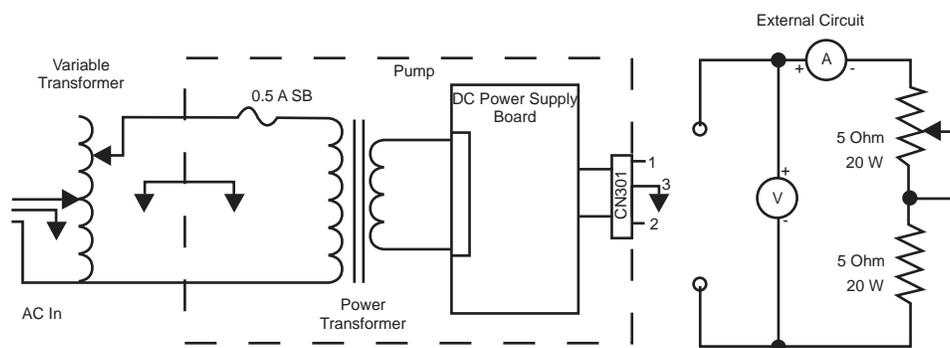

Figure 9-1 Calibration Equipment Setup
- 12.1 Connect the calibration circuit shown in Figure 9-1.
- External circuit consisting of a 10Ω , 10 watt resistor in series with a 10Ω , 10 watt potentiometer (see Figure 9-1).
- 12.4 Connect the external circuit as illustrated in Figure 9-1 with the positive lead connected to pin 2 and the negative lead connected to pin 3.